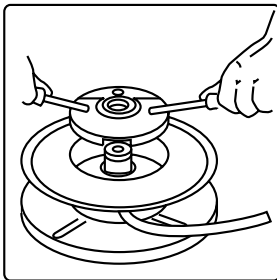
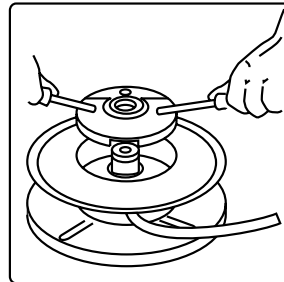

fig. 4e
fig. 5e
5. Put two screw drivers into the slots and lift out the lid (part nr 500110 and 500111, figure 4e); Unfasten the central screw and remove the bushing (part nr 500115 and 500116, fig 5e).